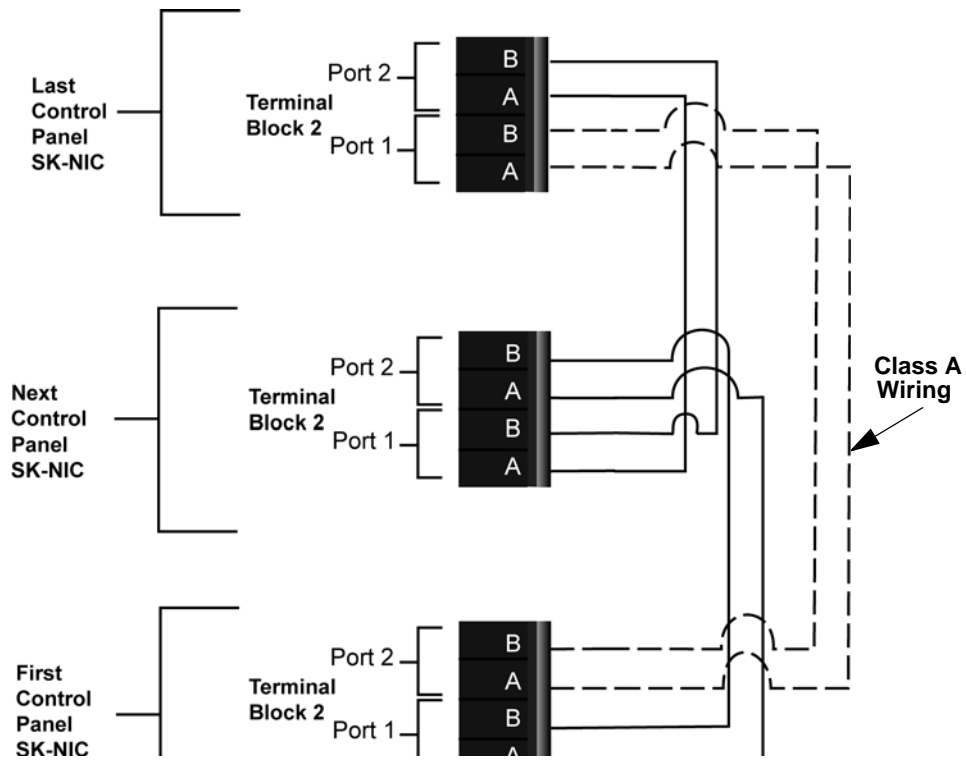
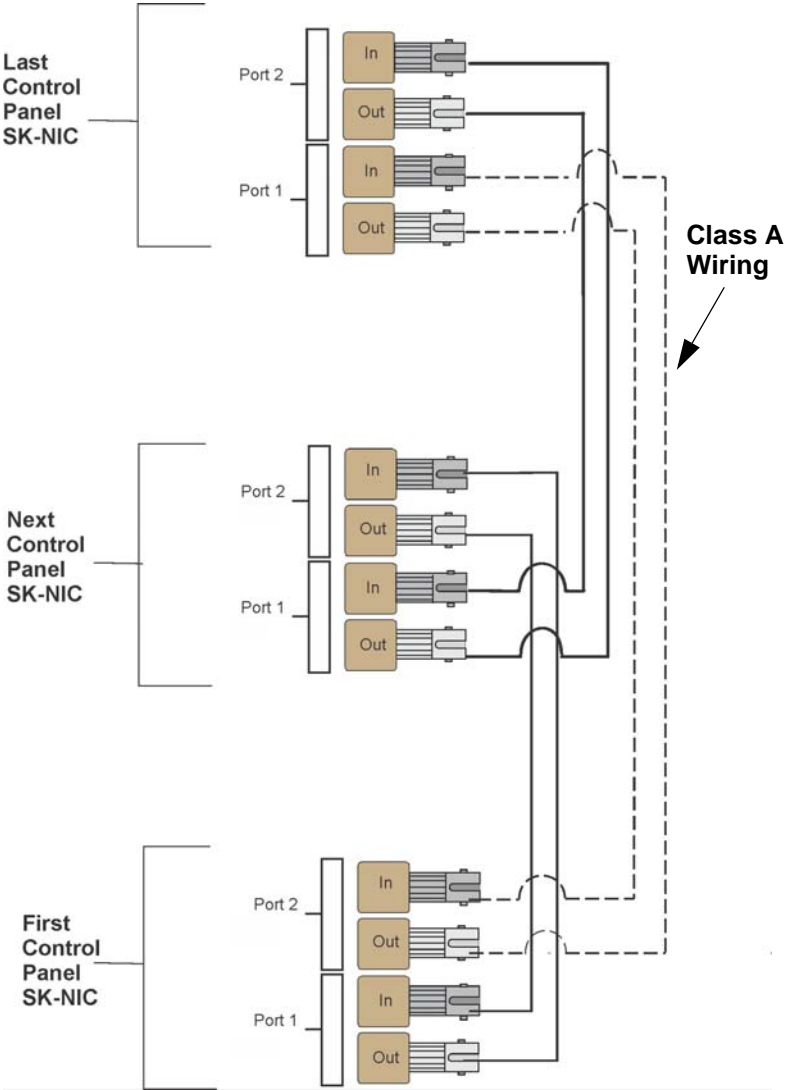
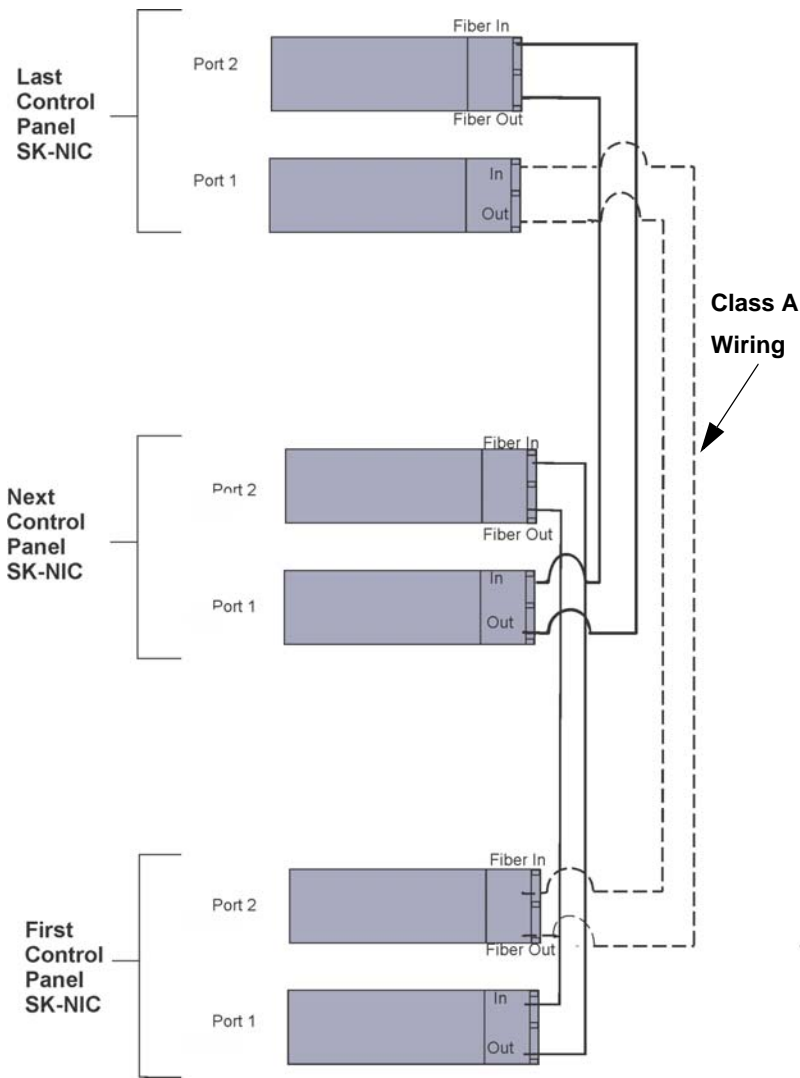

Figure 5-7 Twisted Pair Wiring Configuration
Figure 5-8 Fiber Optic Wiring Example
Figure 5-9 Fiber Optic Wiring Single-Mode Example
5. Based on the type of data medium chosen, run the twisted pair wiring/fiber optic cable to the next SK-NIC using a class B or class A wiring method. A combination of both medium types can be used. See Figure 5-7, Figure 5-8, Figure 5-9, and Figure 5-10 for SK-NIC wiring examples.
Unshielded twisted pair wiring between multiple panels is shown in Figure 5-7. Class A wiring is shown with a dotted line.
Fiber optic cable between multiple panels is shown in Figure 5-8. Class A is shown with a dotted line.